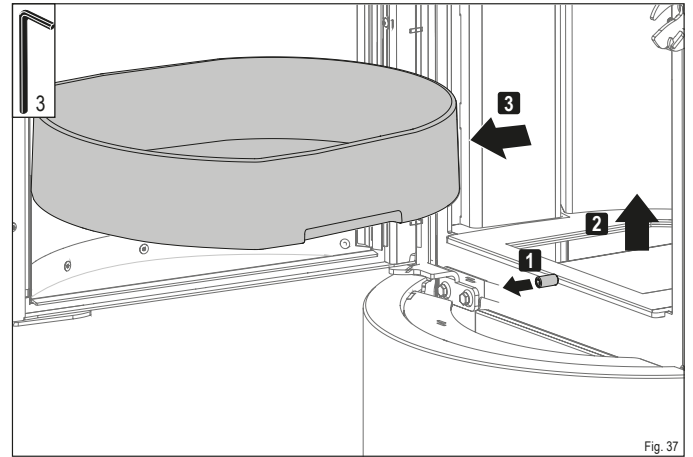

Fig. 37
- ▶ Remove the fire grate from the firebox (Fig. 37).